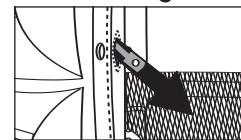

Figure 3B
- B. Slide foot of hold-open bar, located inside the packbag, through the button hole in the back of the packbag (Figure 3B).